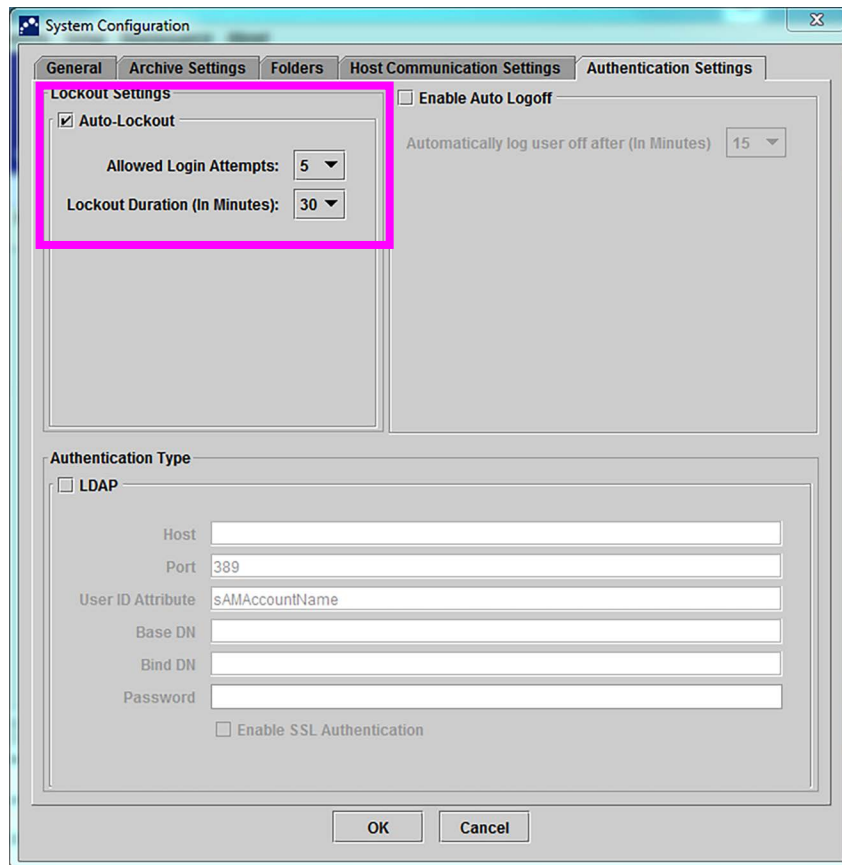

Figure 2-64. Authentication Settings Configured for Auto-Lockout
1. In the **Host Test Code** table section of the Host Communication Settings tab (see Figure 5-88), click the desired **Edit** button to change the setting. The Define Test Code dialog box appears. See Figure 2-64.
2. Click the **Authentication Settings** tab; the Authentication Settings information appears. See Figure 2-64.